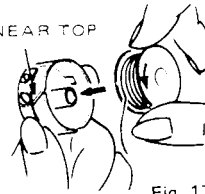

Fig. 17
- Hold bobbin so that thread will unwind in the direction shown in Fig. 17, and insert bobbin in bobbin case.